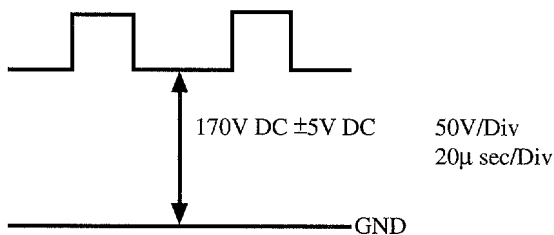

Fig 2-1
- (1) Short the IC501 Pin2 and Pin5 (or 11) and set the screen in single horizontal line.
- (2) Set the TV to the external input mode (no input).
- (3) Connect an oscilloscope to TP SCREEN (on the NK C.B. near the C552 capacitor).
- (4) Adjust SFR302 (Sub-bright) so the voltage at TP SCREEN is  $170 \pm 5\text{VDC}$ . (See Figure 2-1)
- (5) Adjust the SCREEN VR (FBT) so that a horizontal line begins to appear at the center of the screen.
- (6) Release the short-circuit point.